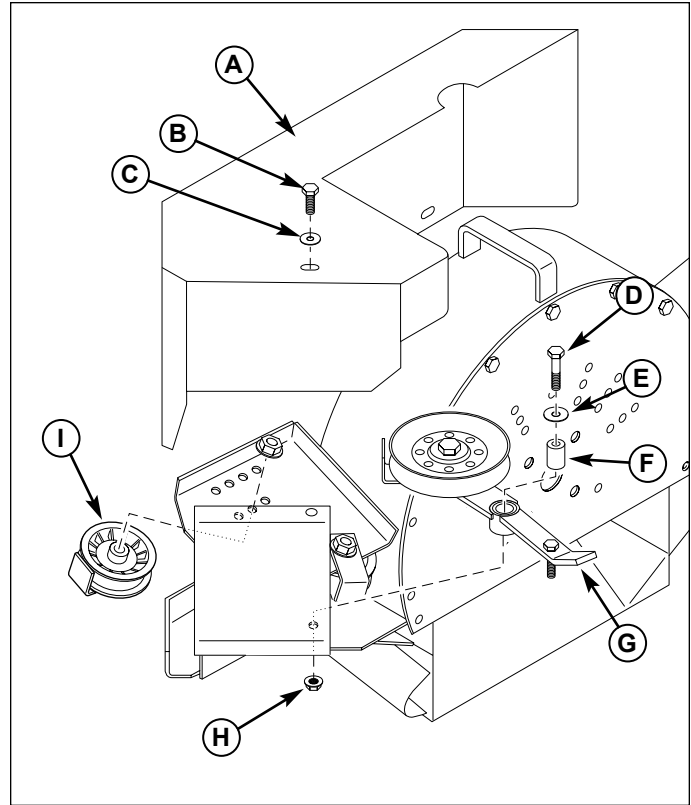

Figure 24. Idler Arm Installation
1. Remove the belt guard (A, Figure 24) and hardware (B & C) from the blower housing and set aside.